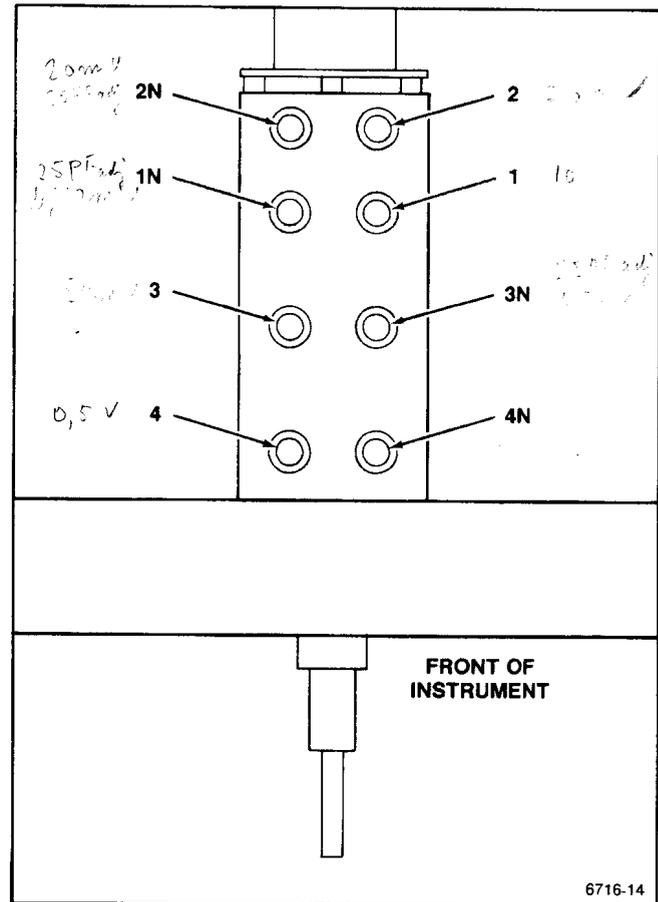

Figure 5-1. Attenuator trimmer adjustments.
f. ADJUST—Trimmer "1" for flattest response on the square wave signal. See Figure 5-1 for location of the trimmers.